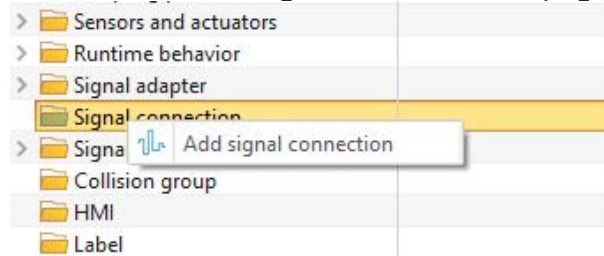

Figure 12-18: Add signal connection
- Under "Mechatronic", locate "Signal Connection". (Figure 12-18)